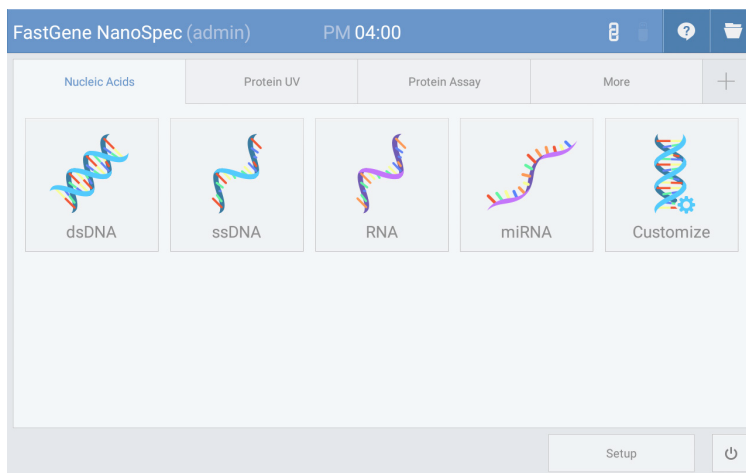

Fig. 1.2
1. [Fig. 1.2] Click the "+" button on the menu screen.